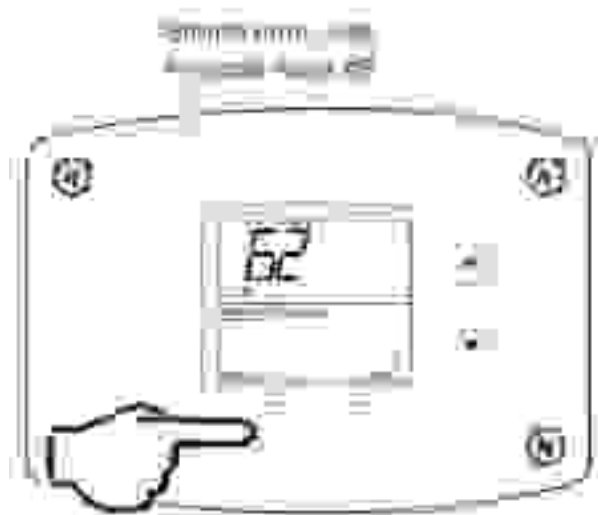

Fig. 74
5. Press the 'Select' button for code index #9 to view if there are any code numbers (Fig. 74).